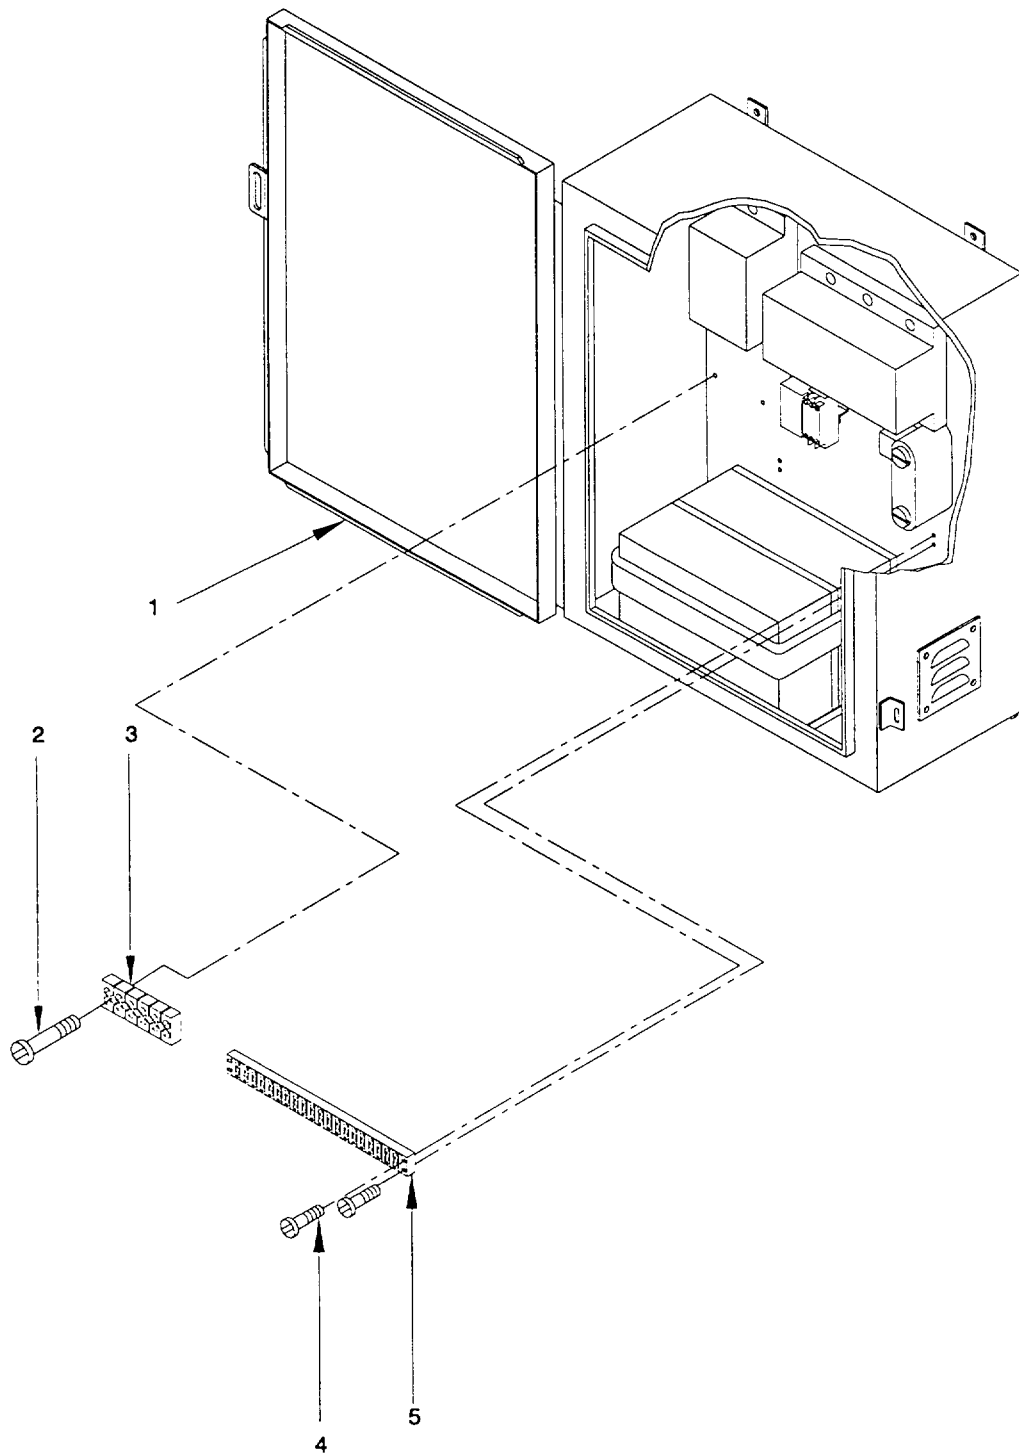

Figure 2-79. Terminal Block. Pump-Jet Direction/Auxiliary Battery Junction Box "A9", Remove/Install.
a. *Remove.* (figure 2-79)
- (1) Open enclosure door to access interior of junction box (1).
- (2) Disconnect electrical wiring to junction box A9 (1) and tag OUT OF SERVICE.
- (3) To remove terminal block TB1, remove two pan head screws (2) freeing terminal block (3).
- (4) To remove terminal block TB2, remove four pan head screws (4) freeing terminal block (5).
b. *Install.* (figure 2-79)
- (1) To install terminal block TB2, position terminal block (5) in junction box A9 (1) and secure with four pan head screws (4).
- (2) To remove terminal block TB1, position terminal block (3) in junction box A9 (1) and secure with two pan head screws (2).
- (3) Connect electrical wiring to junction box A9 (1). Refer to Appendix G.
- (4) Close door to junction box (1).